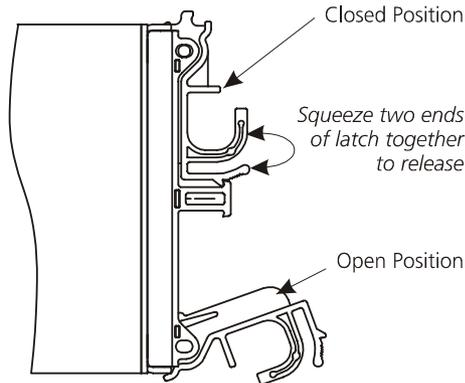

Figure 4-11 LRC Module Latch Operation
- 2 Cam the module home by manually closing the latches (see Figure 4-11).